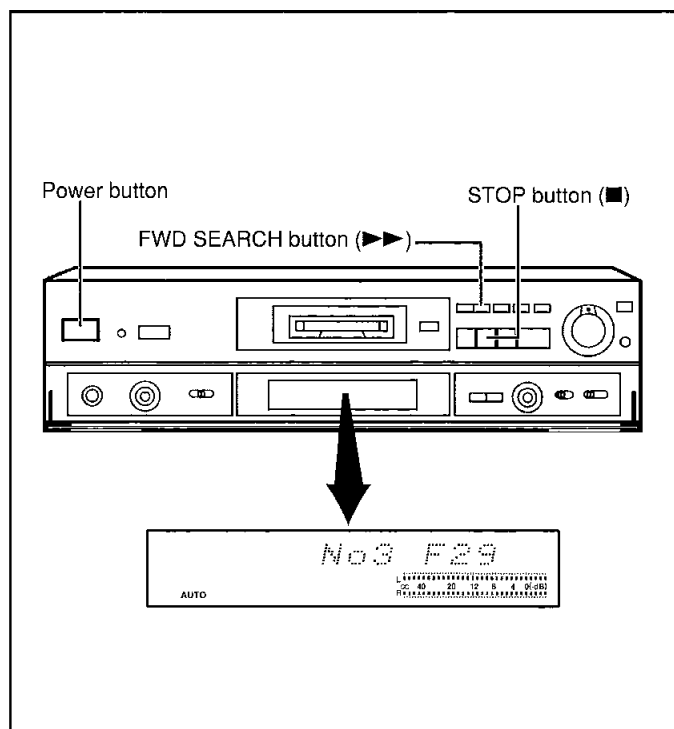

Fig. 1
2. Press and hold the STOP button (■) for at least 2 seconds. and while still pressing the STOP button (■), press the FWD SEARCH button (▶▶) for at least 2 seconds. (Shown in Fig.1) The unit enters Self-Diagnostic Mode and is displayed "MD TEST". Then an error code is displayed, if any. For details of the error codes, see Table 1.